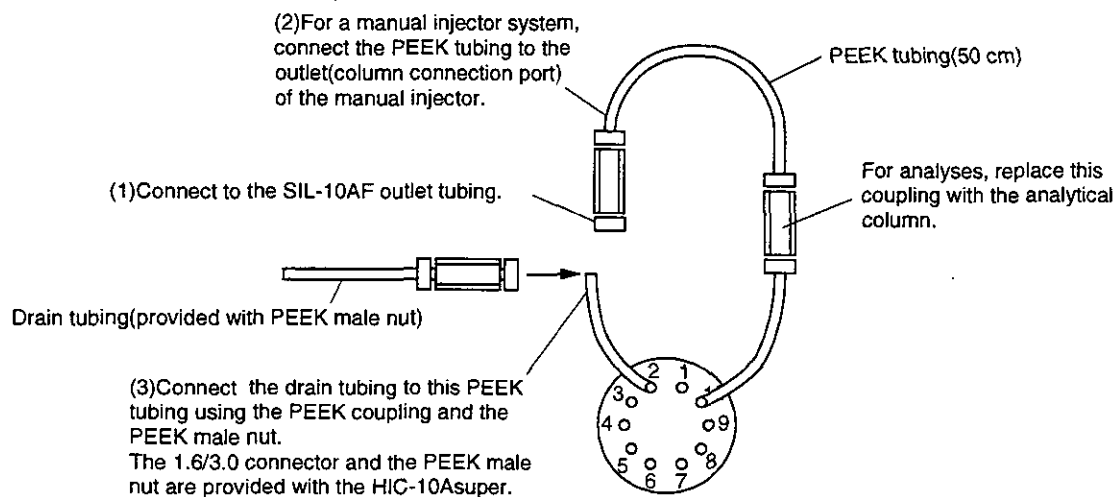

Fig. 5.18
Connect the autosampler (SIL-10AF) inlet tubing to the pump outlet (LC-10ADsp). Next, remove (1) shown in Fig. 5.18 and connect it to the autosampler outlet tubing.
Connect the pump (LC-10ADsp) to the manual injector inlet pump port with PEEK tubing (0.3 mm i.d.: provided with the HIC-10Asuper.) Next, connect the PEEK tubing shown in (2) of Fig. 5.18 to the manual injector outlet (port where the column is connected).